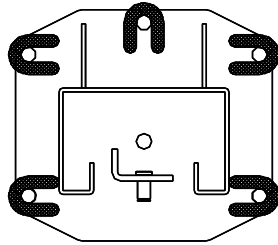

Fig 2 – Column Shimming
- 8) Shim both columns to plumb using the shims provided as shown in **Fig 2**. DO NOT shim more than 1/2" at any given point. Use a level no less than 24" in length to plumb columns.
- 13) Check idler column shimming. Use additional shims (**see Fig. 2**) to remove any gaps that may have been created while installing overhead beam. Tighten anchor bolts and recheck column for plumb. Torque to 150 foot-pounds.